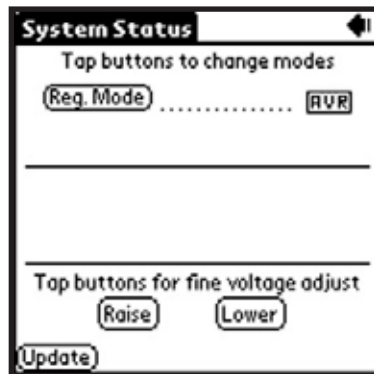
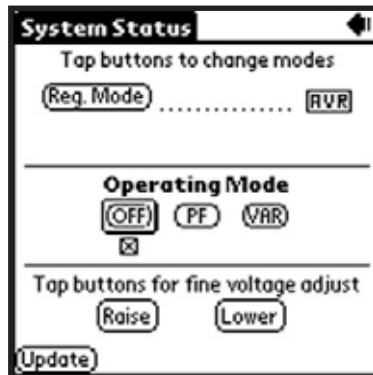

Figure 6-22. System Status Without Operating Mode Screen
Figure 6-23. System Status With Operating Mode Screen
The System Status Without Operating Mode Screen shown in Figure 6-22 is accessed from the Main Screen (Figure 6-14) by tapping the arrow on the Other Pages: line and then tapping System Status. The System Status Screen displays the current mode setting.
If the Var/PF option is installed, the Systems Status Screen may be different than that of Figure 6-22. This is illustrated in Figure 6-23, System Status With Operating Mode Screen. The Operating Mode segment of the System Status Screen (Figure 6-23) has three buttons labeled OFF, PF and VAR. A box around the Operating Mode's OFF, PF and VAR buttons indicates which mode is selected. A checked box below the buttons indicate which of the three modes the DVR®2000E is currently operating in. The figure also shows that the selected operating mode is VAR while the DVR®2000E is operating in OFF (AVR mode). Tapping the PF button places the DVR®2000E in the power factor operating mode and causes a checked box () to appear below the PF button. Tapping the VAR button places the DVR®2000E(C) in the VAR operating mode and causes a checked box to appear below the VAR button. Tapping the OFF button disables both power factor and var regulation and places a checked box below the OFF button. The example of Figure 6-23 shows that power factor and var regulation are disabled.
Fine adjustments to the operating setpoint are made by tapping the Raise and Lower buttons of the System Status Without Operating Mode Screen (Figure 6-22). (The fine adjustment through the front panel push buttons only controls the voltage setpoint.) An arrow serves as a reminder of which button was last tapped. In AVR mode, a single tap of the Raise or Lower buttons increments or decrements the generator voltage by 0.1 volts and the